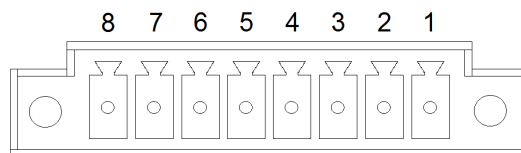

Figure 2.3-6 8 Pin GPIO Header (Looking at the Reader)
Looking at the reader, the pins are numbered left to right from eight (8) to one (1). See Figure 2.3-6 for details and Table 2.3-1 for the pin out.